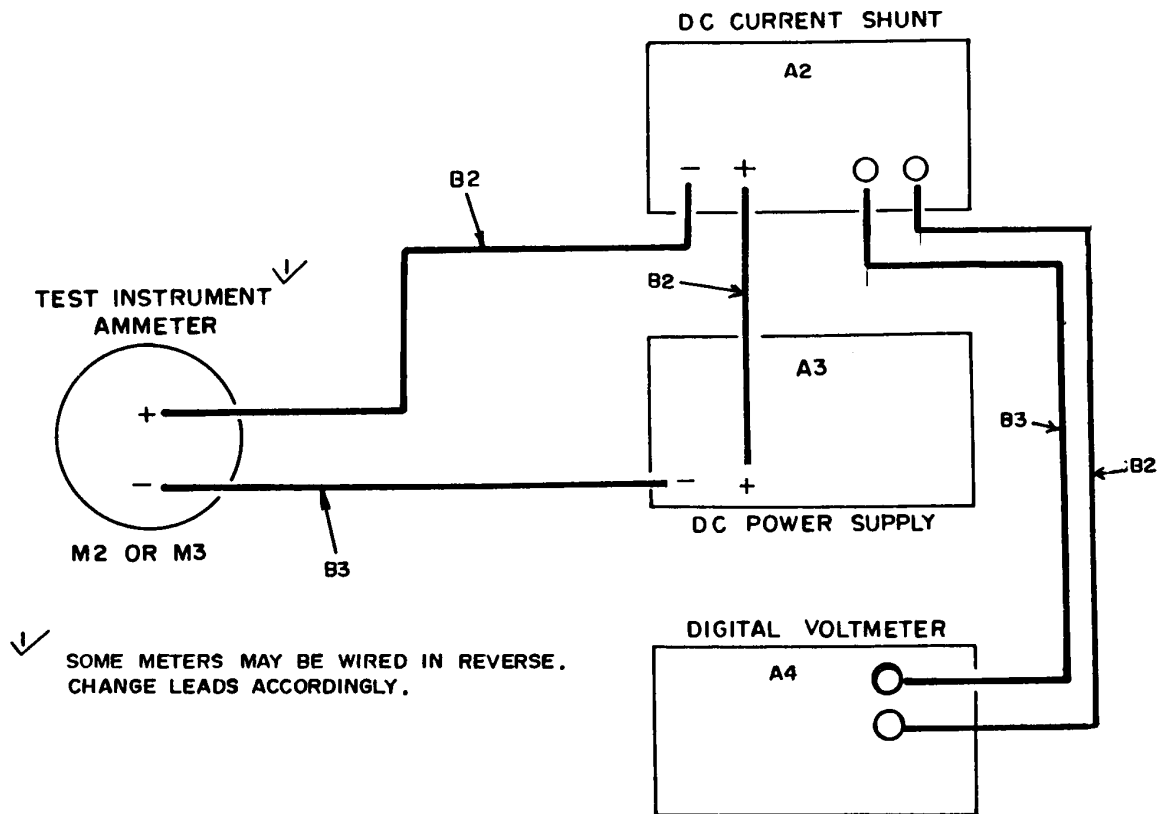

Figure 2. Ammeter setup.
(1) Remove wires from M2 and connect as shown in figure 2.
(2) Prepare dc current shunt (A2) and digital voltmeter (A4) for measuring current of 1 A.
(3) Adjust dc power supply (A3) for full-scale indication on M2. Digital voltmeter (A4) will indicate between 97 and 103 mV.